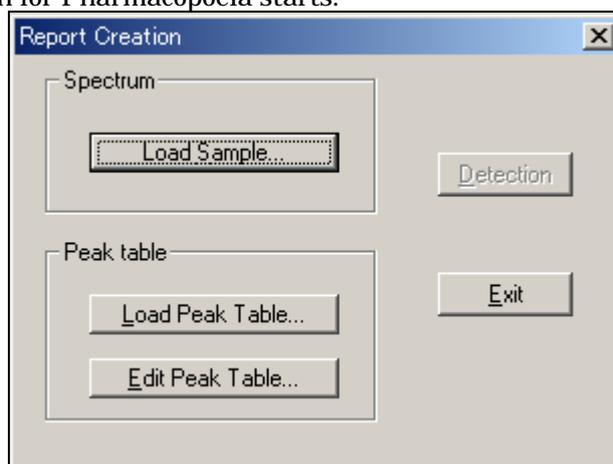

Figure 5-2. "Peak detection function" screen
6. Then, click < Peak Detection > to open the dialog box in Figure 5-2, and the Peak detection function for Pharmacopoeia starts.
3. Clicking the <Open > button returns to the dialog box in Figure 5-2.
The peak table file can be created by clicking < Load Peak Table > button in Figure 5-2, or edited by clicking < Edit Peak Table > button
The peak table file which has already been made can be read by clicking <Load Peak Table> button in Figure 5-2.
3. Select a Peak table file and then, click the <Open> button to return to the dialog box in Figure 5-2.
The peak table file can be created or edited by clicking < Edit Peak Table > button in Figure 5-2.
5. Clicking the <Save> button returns to the dialog box in Figure 5-2.